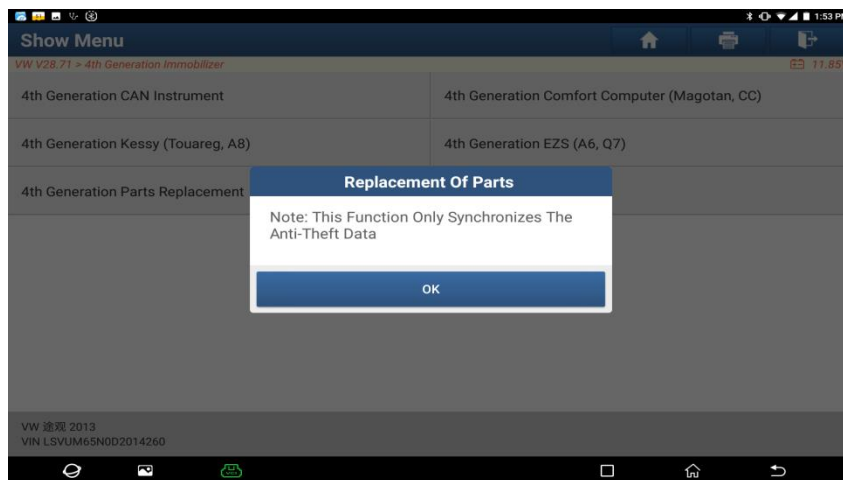

Figure 14
3.2.8 Return to the 4th Generation Anti-Theft function, select [4th Generation Parts Replacement], as shown in Figure 14 and 15, and click [Engine] as shown in Figure 16.